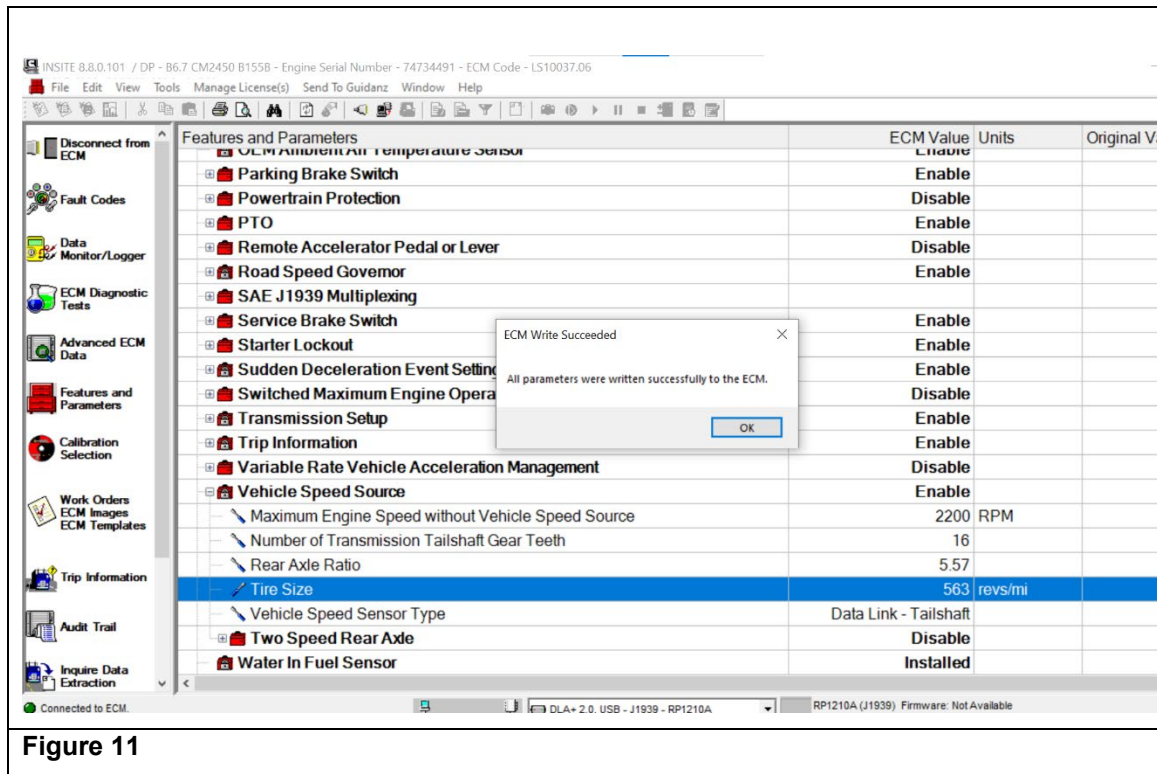

Figure 11
15. The corrected value will show stored in the ECM. Confirm corrected “Tire Size” ECM Value. (See Figure 11.)